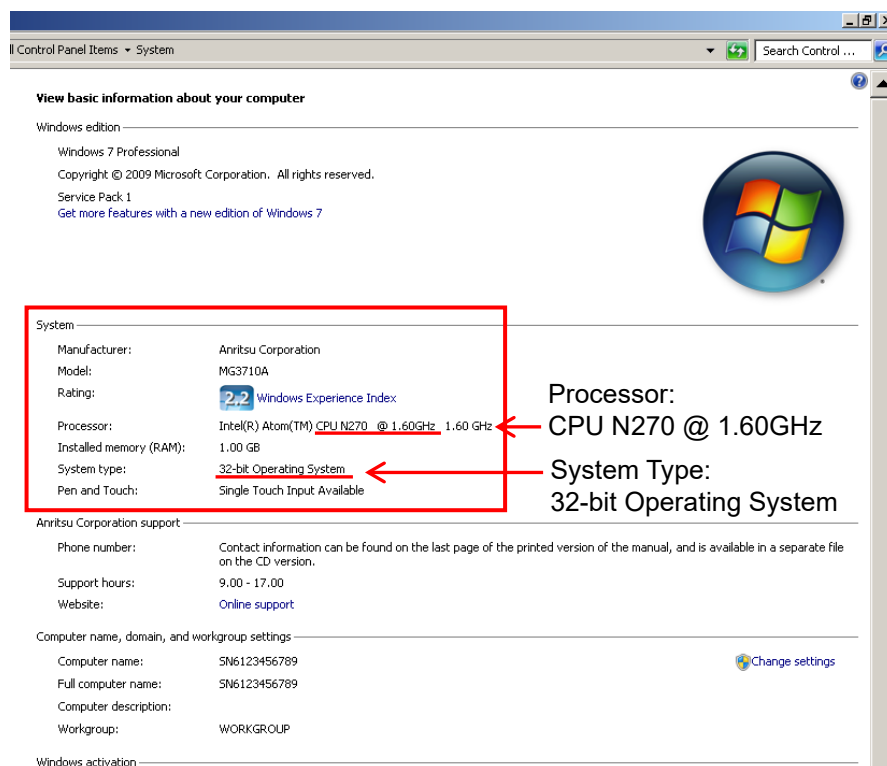

図9.7-2 Windows 7 Professional (Win 7)
- 図 9.7-2 Windows 7 Professional (Win 7)